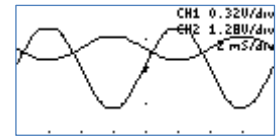

Figure 65: BJT Measurements
- 6) Increase the AWG offset until the CH2 wave is centered on the display. The display should look like figure 65.